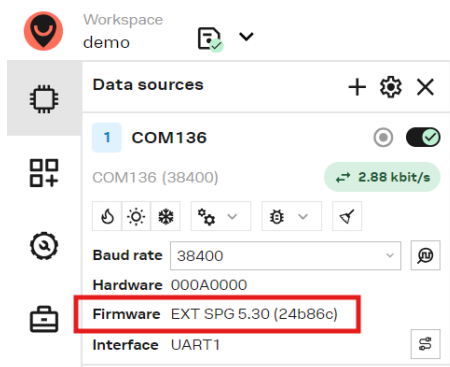

Figure 7: Data source panel in u-center 2 indicating the firmware variant
-  The EVK-M102 supports multiple firmware images. To ensure proper evaluation, verify that the receiver is running the intended firmware variant with the *Data source* panel in u-center 2, as shown in Figure 7, or by polling the message `UBX-MON-VER`. If not, refer to the Uploading the firmware for instructions on flashing the EVK with a different firmware image.